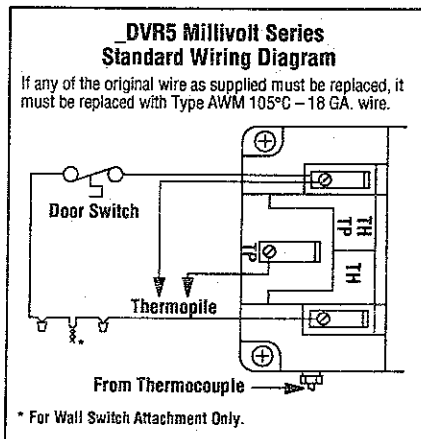
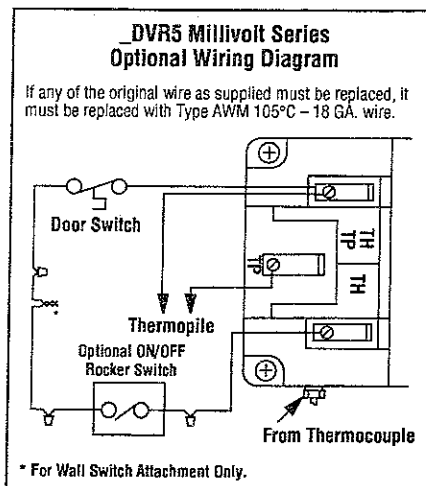

Figure 14
Figure 15
Step 6. Installing the Optional Remote Wall Switch – The standard _DVR5 millivolt system comes from the factory wired as shown in Figure 14. Select a convenient location for the remote wall switch and connect the wiring to the appliance (Figure 15).